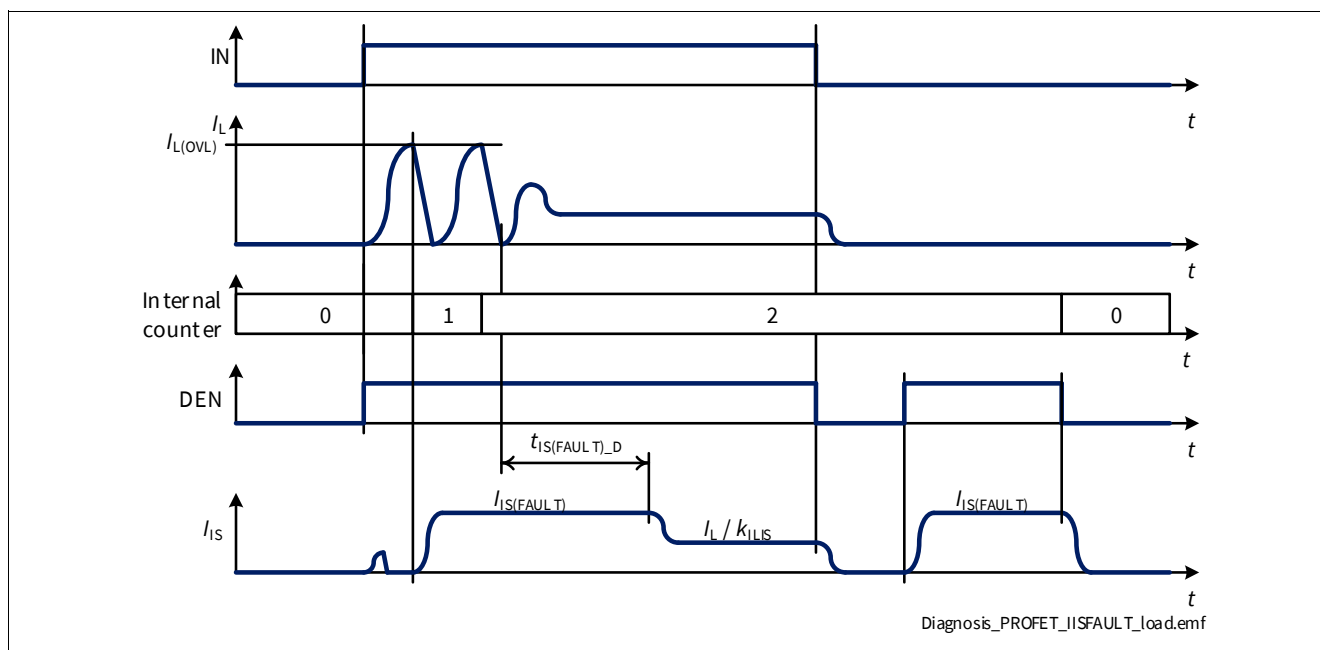

Figure 35 $I_{\text{IS}(\text{FAULT})}$ at Load Switching
- If the channel is ON and the number of retries is lower than “ $n_{RETRY(CR)} + n_{RETRY(CYC)} * n_{RETRY(NT)}$ ”, the current $I_{IS(FAULT)}$ is provided for a time $t_{IS(FAULT)_D}$ after the channel is allowed to restart, after which $I_{IS} = I_L / k_{ILIS}$ (as shown in **Figure 35**). During a retry cycle (while timer t_{RETRY} is running) the current $I_{IS(FAULT)}$ is provided each time the channel diagnosis is checked